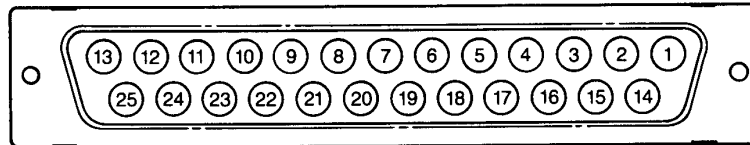

Figure 2-2
2.3.3 Serial Port Connector Pin Assignment Figure 2-2 shows the pinout of the serial port connectors. Both ports use the same pin assignment. Table 2-1 lists the signals present on each pin. Pins without signals shown are not connected within the emulator. All pin assignments and voltage levels conform to Electronics Industries Association (EIA) RS232C standards.